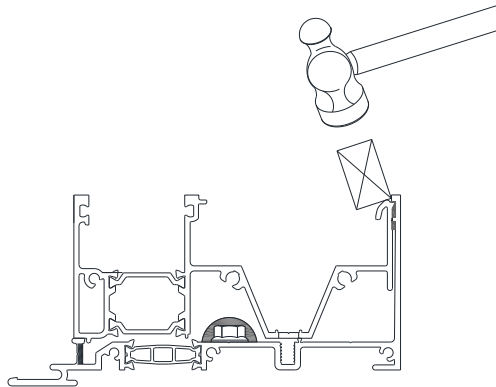

Figure 70: Optional Method to Snap Sill to Sill Receptor
- 19.6 Verify that the Sill has snapped into the Sill Receptor. If not, gentle pressure can be added to assist the engagement. *Figure 70* is an optional technique to connect the Sill to the Sill Receptor. Use care when applying pressure so as not to deform or break the Sill. Clean excess Sealant from the Sill Receptor.
- 19.13 Verify that the Sill has snapped into the Sill Receptor. If not, gentle pressure can be added to assist the engagement. *Figure 70* is an optional technique to connect the Sill to the Sill Receptor. Use care when applying pressure so as not to deform or break the Sill. Clean excess Sealant from the Sill Receptor.